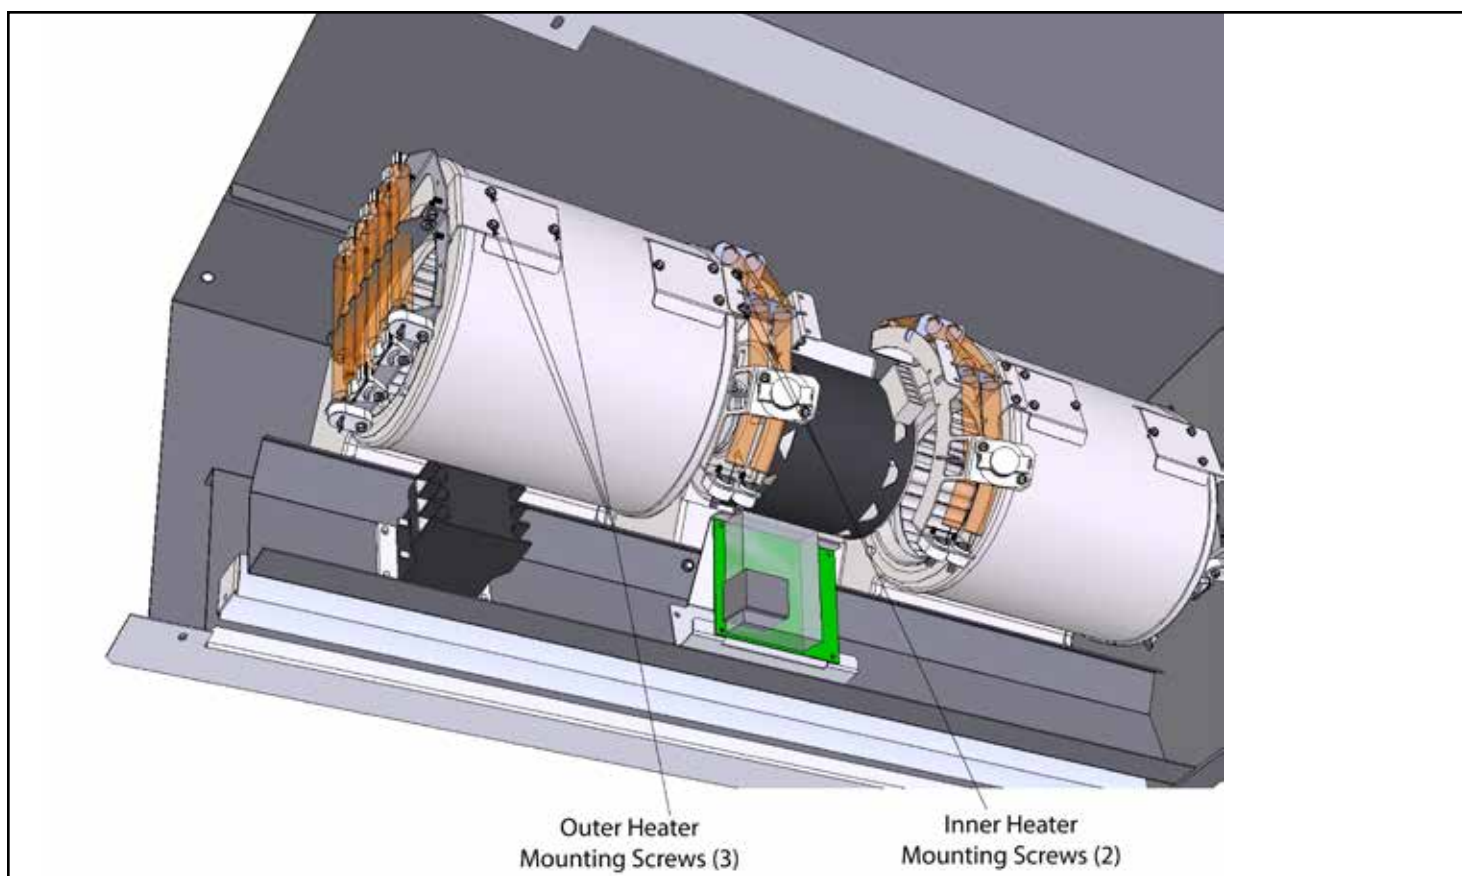

Figure 10
5. To remove the outer heaters, remove the (3) self drilling screws from the mounting plate that is attached to the fan. **See Figure 10.**
6. To remove the inner heaters, remove the (2) self tapping screws from the mounting plate. **See Figure 10.**